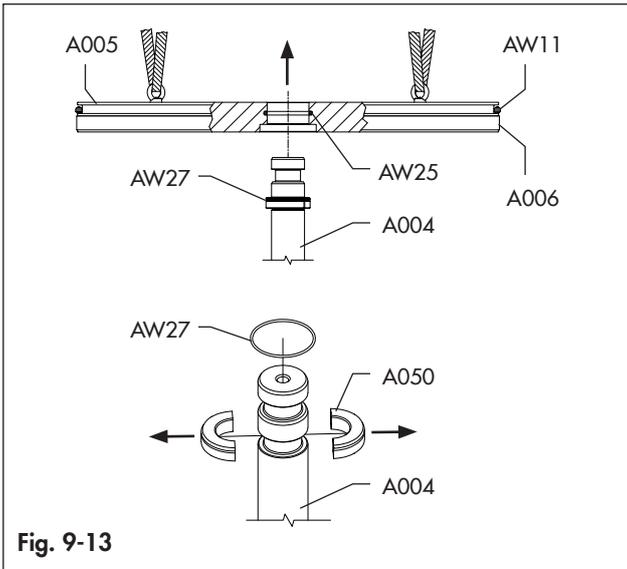

Fig. 9-13
Refer to Fig. 9-12 and Fig. 9-13.
- Disengage and remove the piston (A005) from the shaft (A004). (Fig. 9-13)